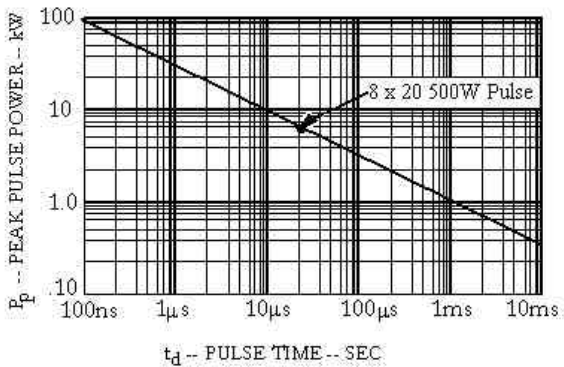

FIGURE 1
- SM03 thru SM36 have a Peak Pulse Power: 500 Watts (8/20 μ sec, Figure 1)